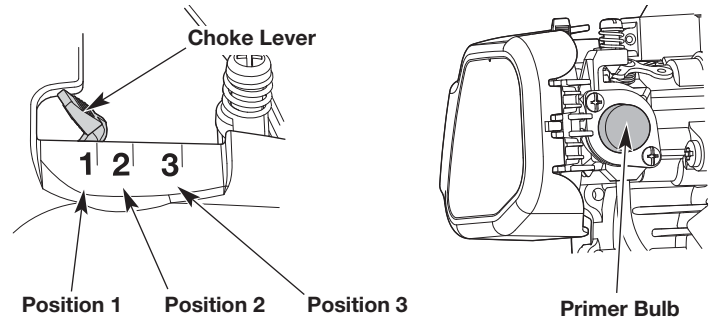

Fig. 5
3. Slowly press and release the primer bulb **10 times** (Fig. 5). If fuel cannot be seen in the primer bulb, press and release the primer bulb until fuel is visible.
4. Move the choke lever to **Position 1** (Fig. 5).
7. Continue to squeeze the throttle control. Move the choke lever to **Position 2** (Fig. 5).
10. Continue to squeeze the throttle control. Move the choke lever to **Position 3** (Fig. 5) and continue warming the engine for an additional 60 seconds. The unit may be used during this time.
**IF...** the engine hesitates, return the choke lever to **Position 2** (Fig. 5) and continue the warm-up.